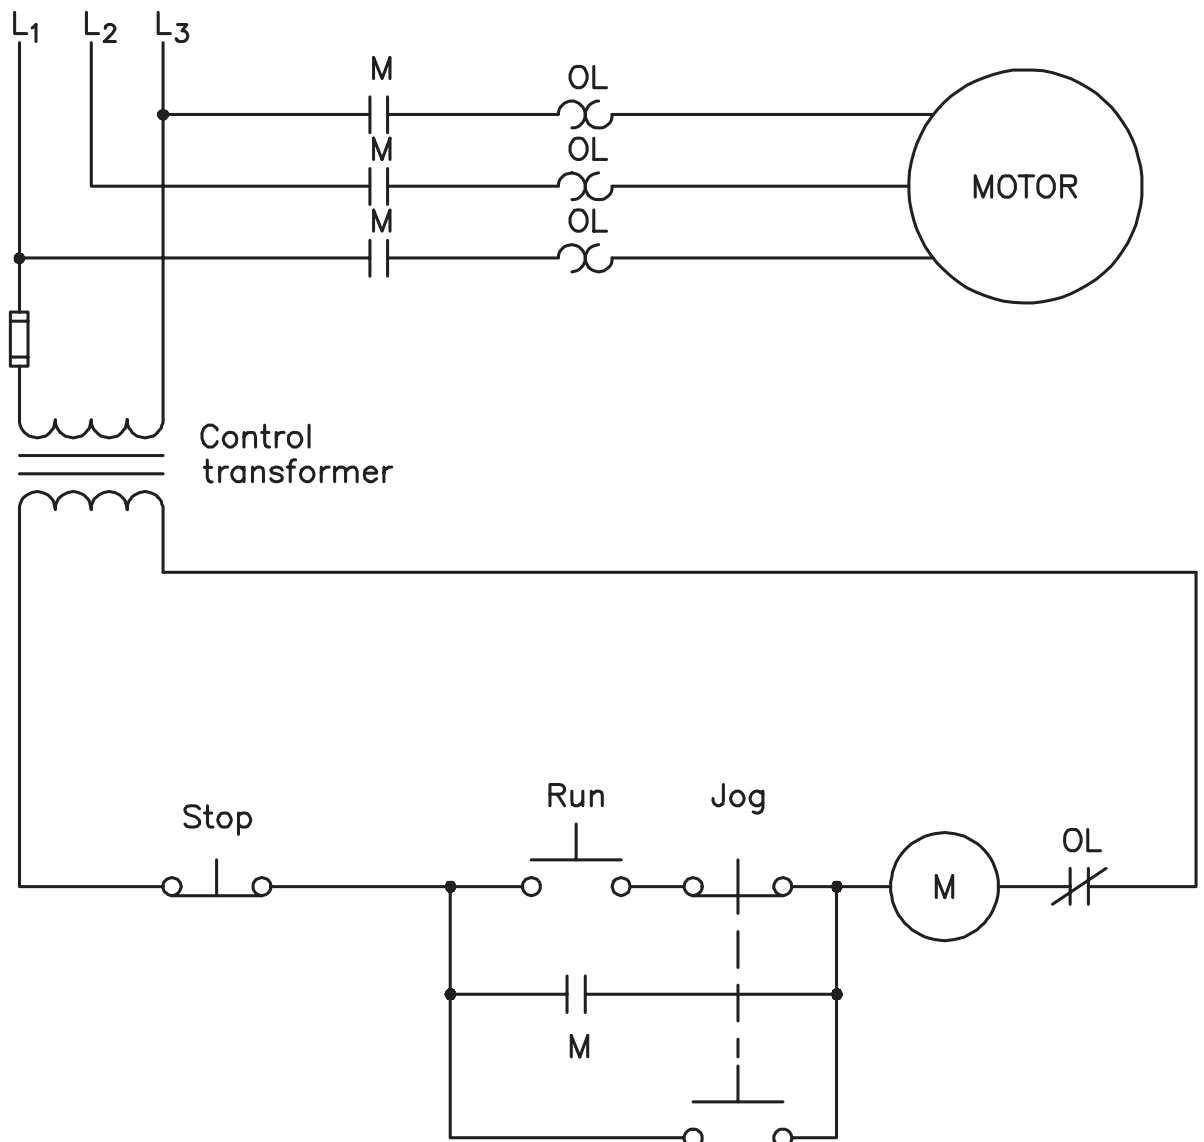

Figure 30-11 Push button has been connected incorrectly.
4. Refer to the circuit shown in Figure 30-11. In this circuit the jog push button has again been connected incorrectly. The normally closed section of the button has been connected in series with the normally open run push button and the normally open section of the jog button is connecting in parallel with the holding contacts. Explain how this circuit operates.